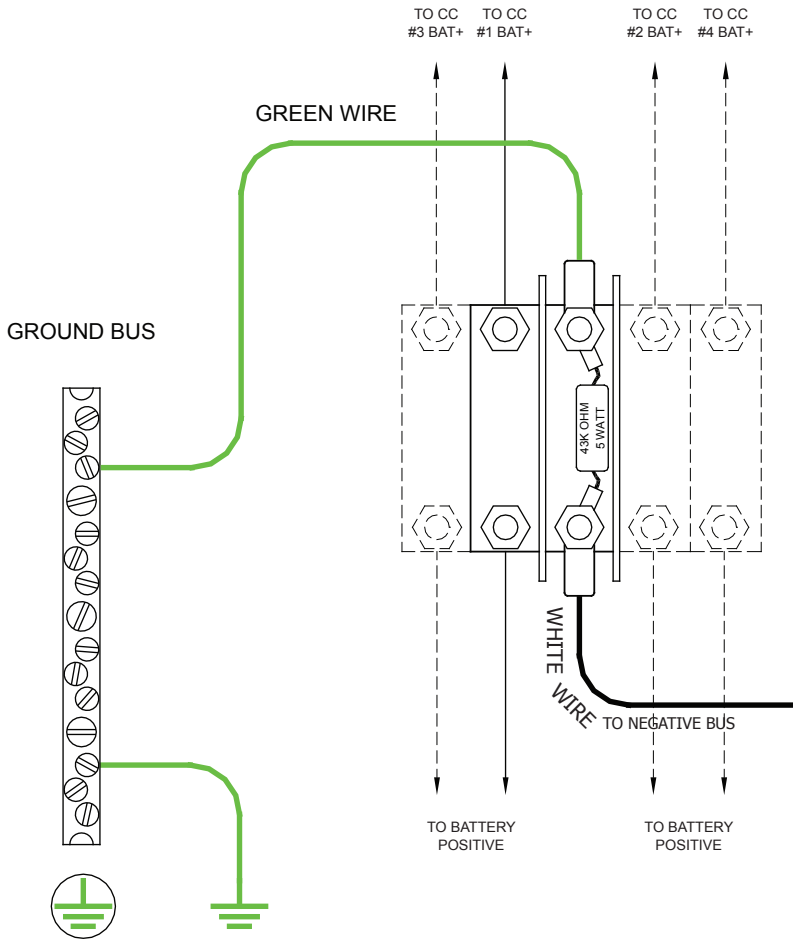

Figure 2. Wiring Diagram, Rear View
- Attach the "Battery +" wire from one charge controller to the top of one 80-amp breaker. (See Figure 2.)
- Attach a wire from your battery positive breaker or battery positive bus bar to the bottom of the same 80-amp breaker. (See Figure 2.)
Once all breakers are turned on, the 0.5 amp breaker of the GFDI connects the grounding system to the battery negative, while the 80 amp breaker(s) connect the battery to the charge controllers (see Figure 2).